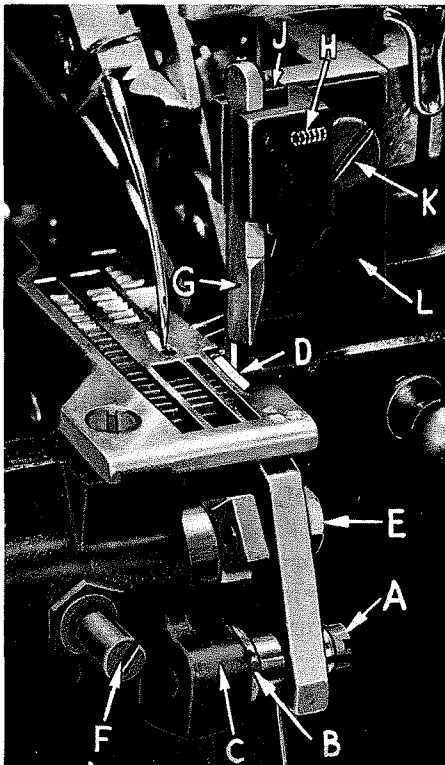

Fig. 15
Replace lower knife holder assembly. In replacing lower knife holder assembly, tighten screw (A, Fig. 15) so that when the face of the flange on sleeve (B) seats against throat plate mounting bracket (C) a free lateral motion of the lower knife and holder assembly is obtained when the knife is manually pressed at its upper corner. Lower knife (D) should be set with cutting edge flush with throat plate surface. Adjustments are made with hexagonal head screw (E) which holds the lower knife. Lower knife is spring pressed against the upper knife, so no lateral adjustment is necessary when the width of trim is changed.
Replace upper knife assembly. Clamp upper knife (G, Fig. 15) in position, setting allen screw (H) to hold clamp (J) against the upper knife. At bottom of its stroke, front cutting edge of upper knife should extend not less than $1/64$ inch below cutting edge of the lower knife.
Replace upper knife assembly. Clamp upper knife (G, Fig. 15 A) in position, setting nut (H) to hold clamp (J) in its most clockwise position against upper knife. At bottom of its stroke, front cutting edge of upper